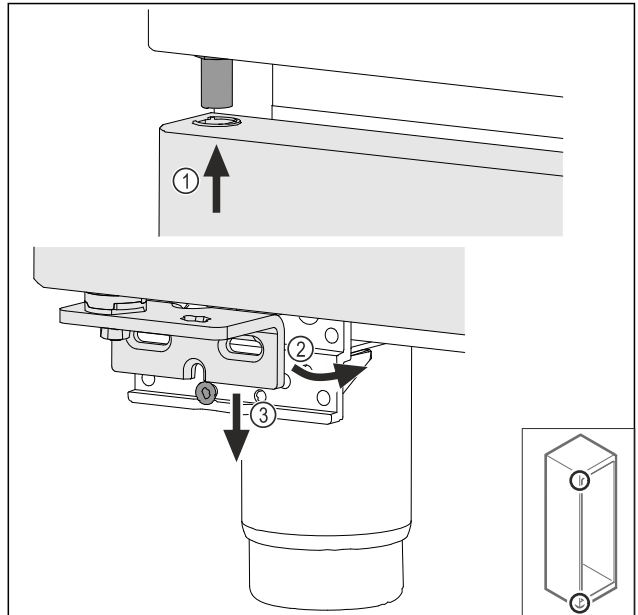

Fig. 47
- Insert the door slightly tilted at the top Fig. 47 (1), align the door straight Fig. 47 (2) and place it on the bottom of the swap bearing block screw Fig. 47 (3).